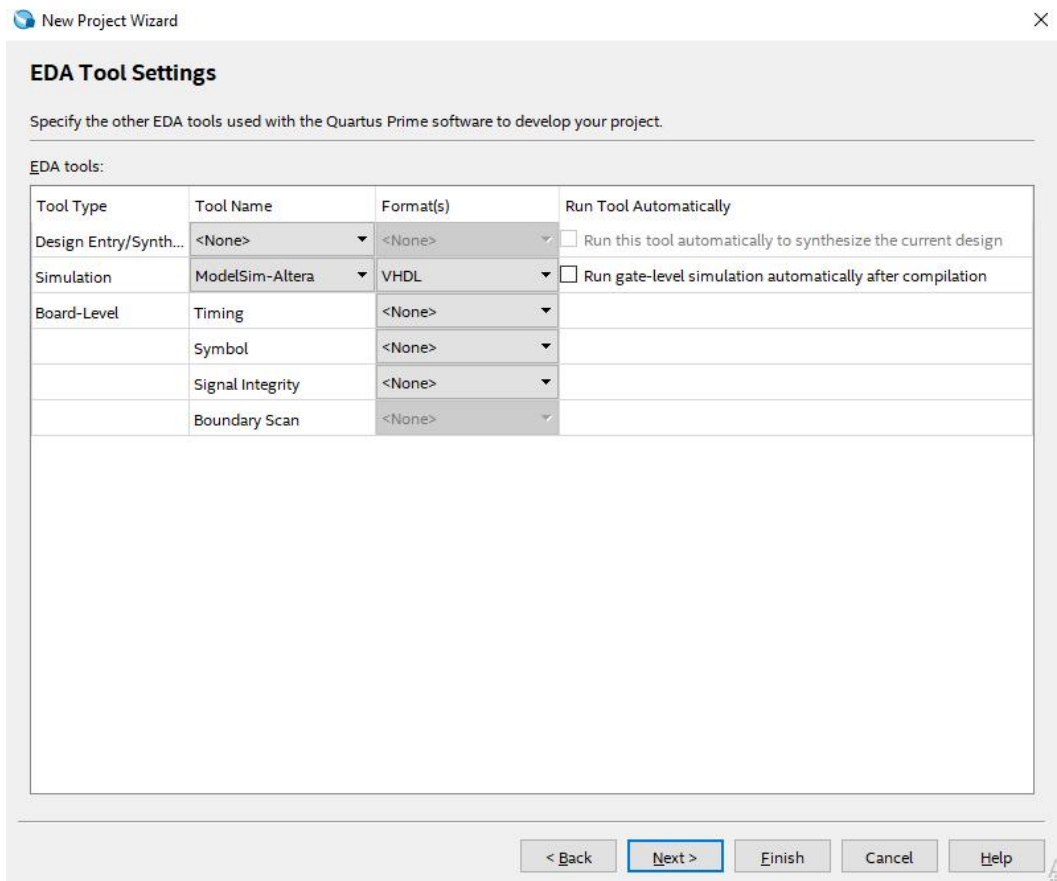

Figure 6: Quartus EDA tool settings page
7. In the 'Page 5' window, you will be asked to select a simulation tool. From drop down menu in Tool Name column, corresponding to the Tool Type simulation select Modelsim-Altera, refer figure 6. From formats drop down menu select the language, in our case VHDL. Click Next